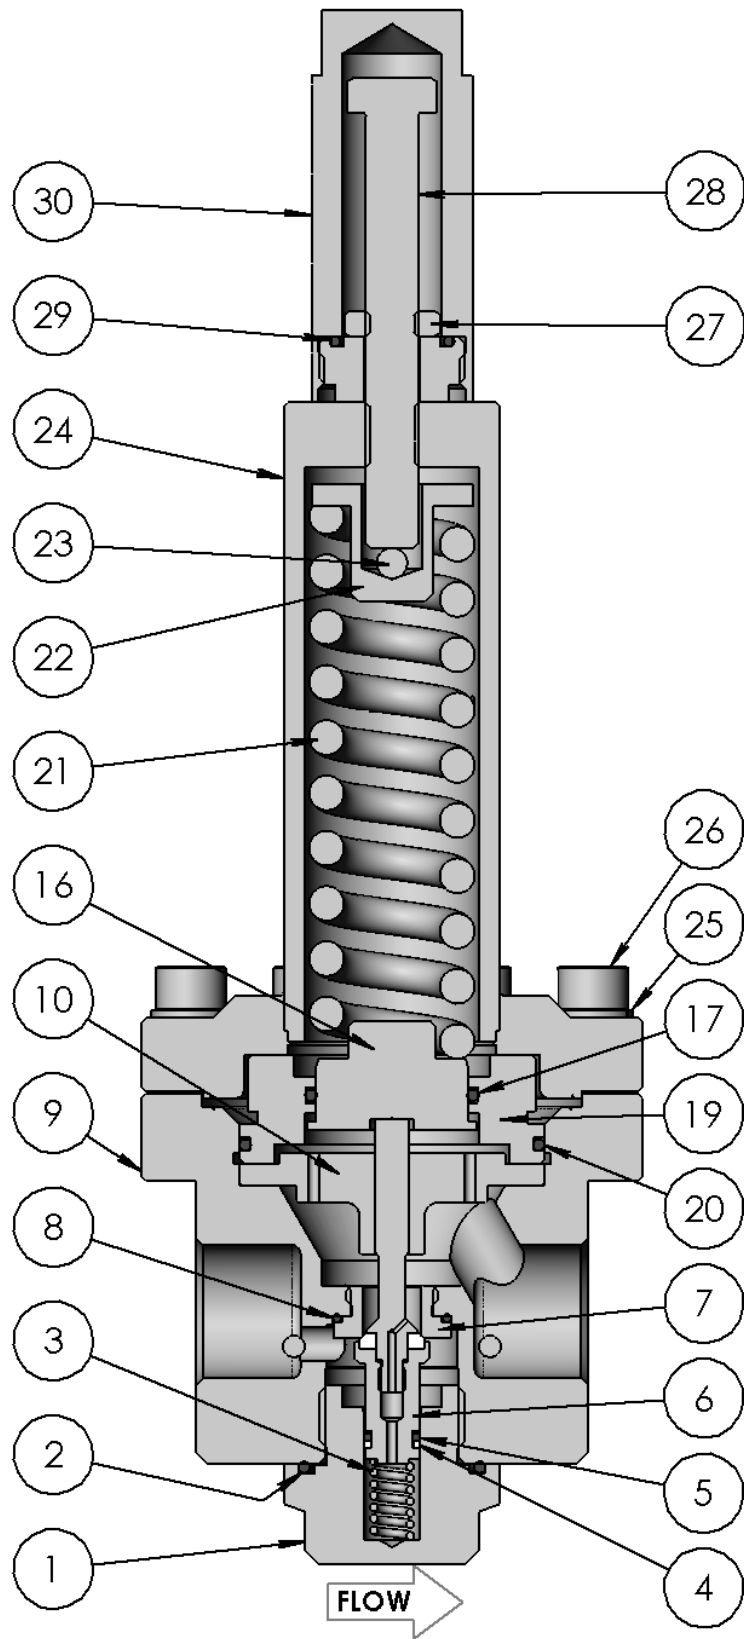

Fig 3
2. If present fit the body plate (10) into the body (9) oriented per Fig 3.
3. Fit the piston plate O-ring (20), piston O-ring (17) and, if present, piston backup ring (18) onto and into the piston plate (19).
4. Lightly lubricate the piston O-ring (17) then insert the piston (16) into the piston plate (19).
5. Fit the piston plate (19) into the body (9).
6. If present, place the bottom spring guide (15) onto the piston (16).
2. Torque the seat (7) to 11 lbf-ft (15 N·m). Take care not to pinch the seat O-ring (8) or damage the seat (7) with the tool.
3. Fit the poppet O-ring (5) into the body plug (1).
5. If present fit the body plate (10) into the body (9) oriented per Fig 3.
6. Fit the piston plate O-ring (20), piston O-ring (17) and, if present, piston backup ring (18) onto and into the piston plate (19).
7. Lightly lubricate the piston O-ring (17) then insert the piston (16) into the piston plate (19).
8. Fit the piston plate (19) into the body (9).
9. If present, place the bottom spring guide (15) onto the piston (16).